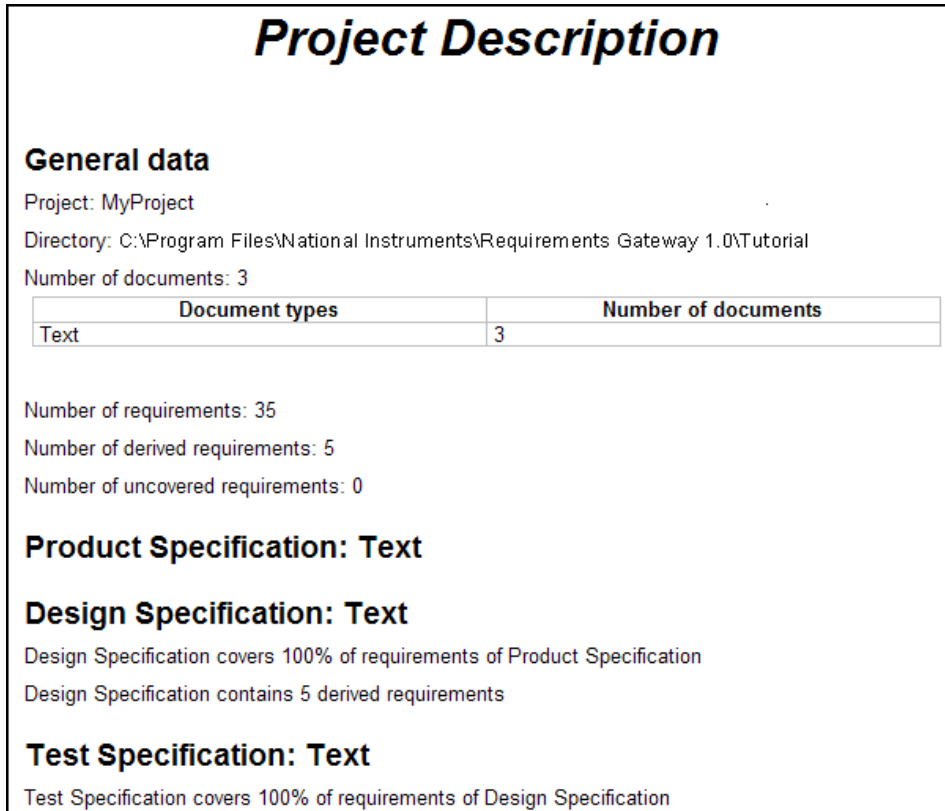

Figure 5-1. Project Description Report
3. Check to make sure you are in the <Requirements Gateway>\Tutorial directory, enter ProjectDescription in the file name control, and click **Save**. Requirements Gateway generates and displays the report in Microsoft WordPad or Microsoft Word, as shown in Figure 5-1.